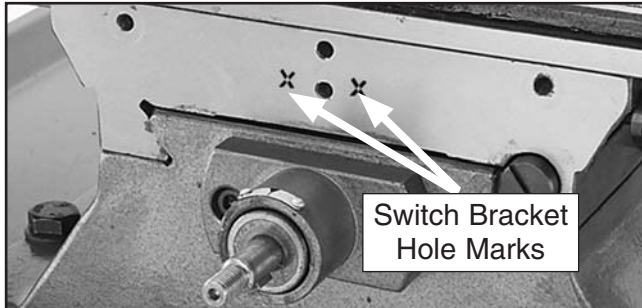

Figure 12. Marks made for switch bracket holes.
12. Position the limit switch assembly and bracket on the table, and mark the holes with a permanent marker (see **Figure 12**).